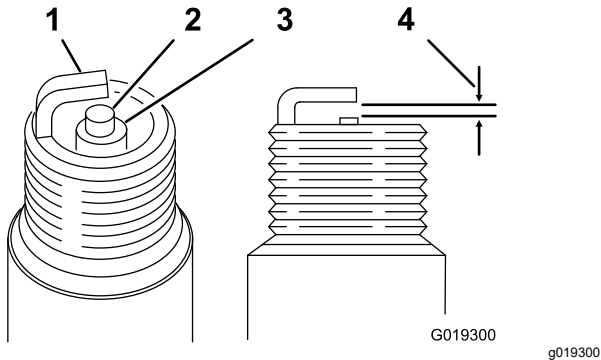

Figure 42
5. For each spark plug, set the gap between the center electrode and the side electrode to 0.76 mm (0.030 inch); refer to Figure 42. Install each of the correctly gapped spark plugs with a gasket seal, and tighten the plugs to 22 N·m (16 ft-lb).